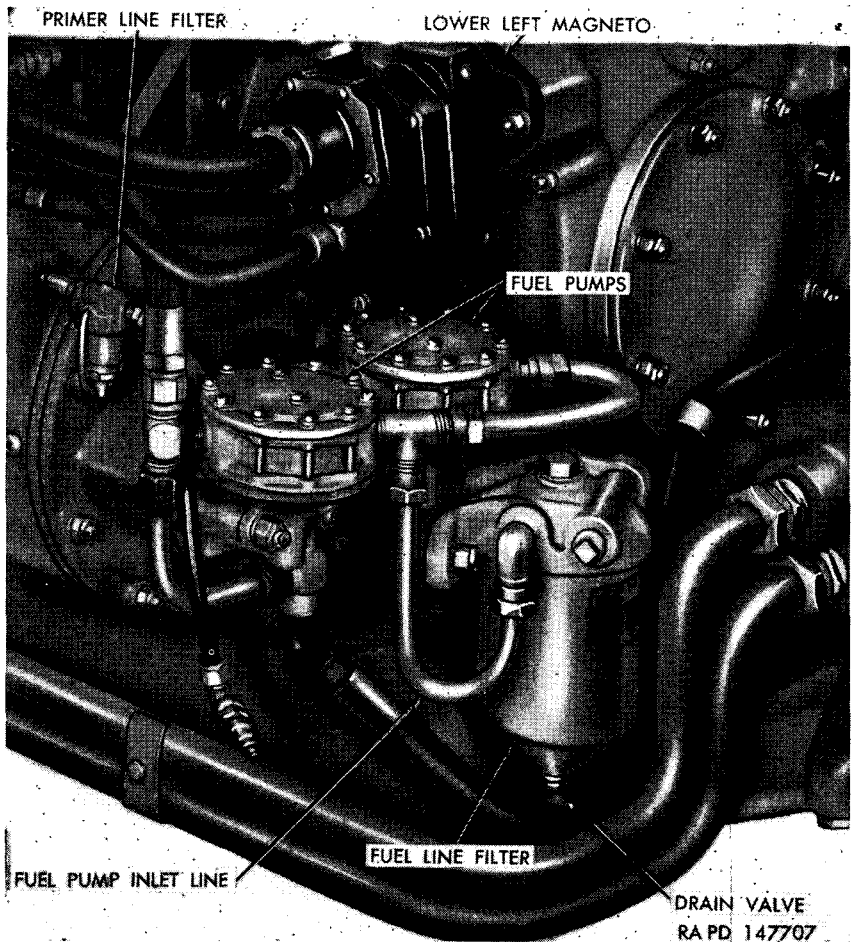
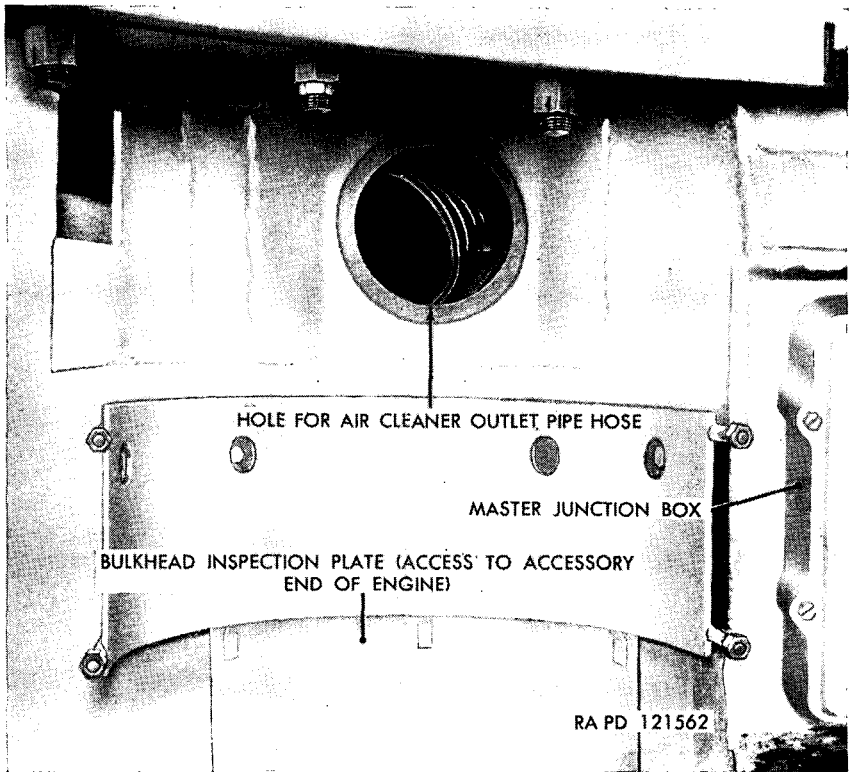

Figure 144. Fuel pumps—installed view.
Figure 148. Left bulkhead—air cleaner removed.
- (1) *General.* Fuel pumps must be tested to be sure that they are pumping fuel at pressures between 4½ and 6 psi. They must be checked on both the intake and outlet sides.
- (2) *Remove right air cleaner and engine inspection cover.* To gain access to fuel pump connections, it is necessary to remove right air cleaner (par. 175) and bulkhead inspection plate (figs. 148 and 163).
- (3) *Testing fuel pump vacuum.*
- (a) Close fuel tank shut-off valve (fig. 11) and remove fuel line between fuel line filter and fuel pumps (fig. 144).
- (1) If removal is made with engine in vehicle, remove right air cleaner (par. 175) and bulkhead inspection plate (figs. 148 and 163).
- (2) Disconnect the fuel lines to carburetors and line from fuel line filter to fuel pumps (fig. 144).
- (3) Remove two jam nuts, nuts, and washers which secure each fuel pump to adapter and lift off pumps.
- (4) Strip off gaskets and remove fittings from pumps.
c. INSTALLATION (fig. 144). Install the inlet and outlet connections into each fuel pump. Using new gaskets, position fuel pumps over studs and secure each with washers, nuts, and jam nuts. Connect the fuel lines to right and left carburetors and line to fuel line filter.
- (2) *Fuel line filter.* To gain access to the fuel line filter (fig. 130), which is on accessory end of main engine, below fuel pumps, it is necessary to remove the right air cleaner (par. 175*b*) and the bulkhead inspection plate (fig. 148). Disconnect tank-to-filter and filter-to-pumps fuel lines. Remove two jam nuts, nuts, and washers securing filter to bracket. Remove fuel line filter. Remove cover screw and cover from the shell of the fuel line filter and remove element. Discard cover screw gasket. Strip off cover gasket.
- (1) *Fuel line filter.* Replace element gasket and insert element in shell. Coat one side of a new filter cover gasket with liquid-type-gasket cement, position gasket on filter cover, and install cover on shell. Secure with cover screw and new gasket. Position filter on bracket and install washers, nuts, and jam nuts securing filter to bracket. Connect fuel lines from fuel tanks and fuel pumps to filter (fig. 130). Install bulkhead inspection plate (fig. 148) and right air cleaner (par. 175).
- (2) *Fuel tank filter.* To install left fuel tank filter, coat one side of a new filter cover gasket with liquid-type-gasket cement, position gasket on filter cover and carefully insert filter into opening on left fuel tank. Secure filter with six screws and lock washers. Tighten screws alternately to compress gasket evenly. Install left fuel tank shut-off valve (par. 178). Install right fuel tank filter in the same manner as installation of left fuel tank filter. Install right fuel tank shut-off valve (par. 178). Inspect all connections for leaks. Install power plant (par. 160). Install top deck (par. 161a).